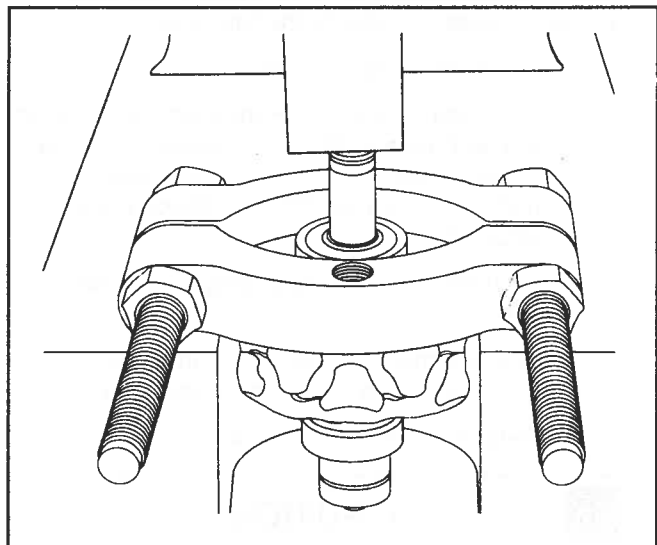

Figure 6-101. Removing Front Bearing From Rotor
14. Remove front bearing from shaft with Universal Puller Plate and an arbor press, as shown in Figure 6-101. Discard bearing.